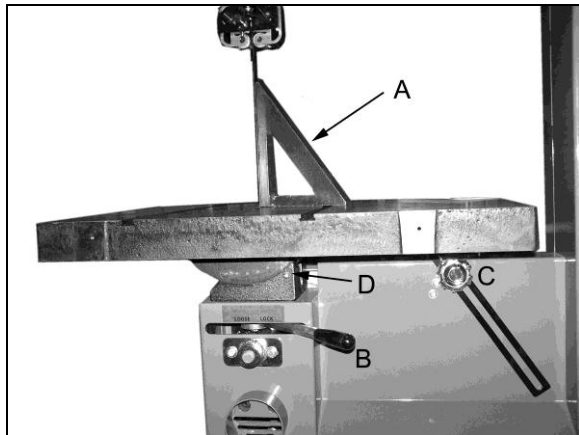

Figure 11
3. Place a square (A, Figure 11) on the table against the blade to see if the table is 90 degrees to the blade.
4. If adjustment is necessary loosen lever (B, Figure 11) and tale stabilizing knob (B, Figure11) and tilt table until it is square to the blade. Re-tighten the lever and knob.
5. Adjust pointer (D, Figure 11) to read zero.